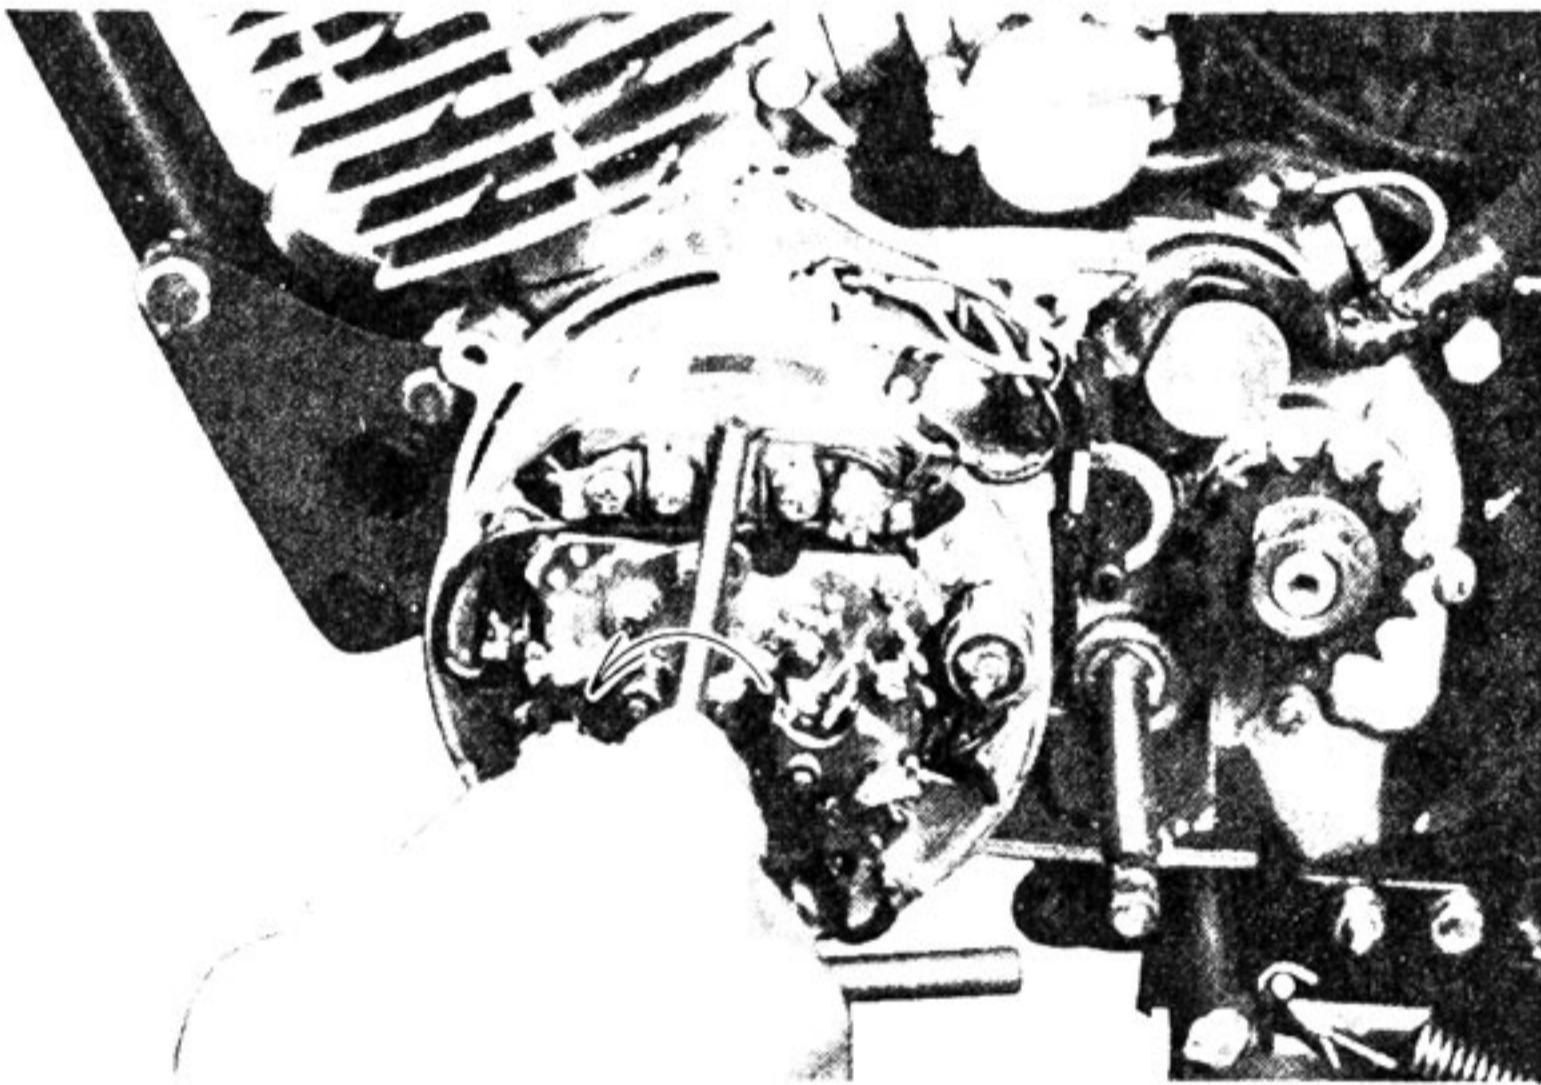

Fig. 4-1-8
(4) Remove the yoke ass'y (Fig. 4-1-8)